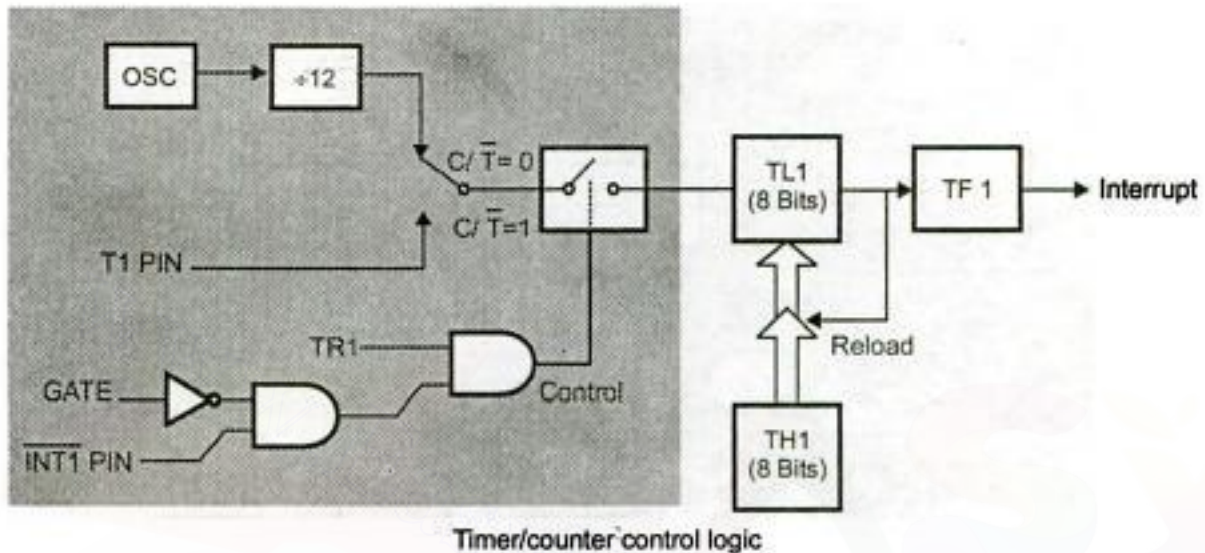

Fig. 9.5 Timer/counter 1 mode 2 : 8-bit auto reload
- **Hardware :** The timers can be started and stopped by an external hardware as long as 'GATE' bit in TMOD register is 1. In Figs. 9.5 and 9.6, the start and stop operations of the timers are done externally through pins $\overline{\text{INT0}}$ (pin 3.2) and $\overline{\text{INT1}}$ (pin 3.3) for timers 0 and 1 respectively. The timer can be started or stopped at any time externally via a simple switch.
Mode 2 configures the Timer register as an 8-bit Counter (TL1) with automatic reload, as shown in Fig. 9.5. Overflow from TL1 not only sets TF1, but also reloads TL1 with the contents of TH1, which is preset by software. The reload leaves TH1 unchanged. Mode 2 operation is the same for Timer/Counter 0.